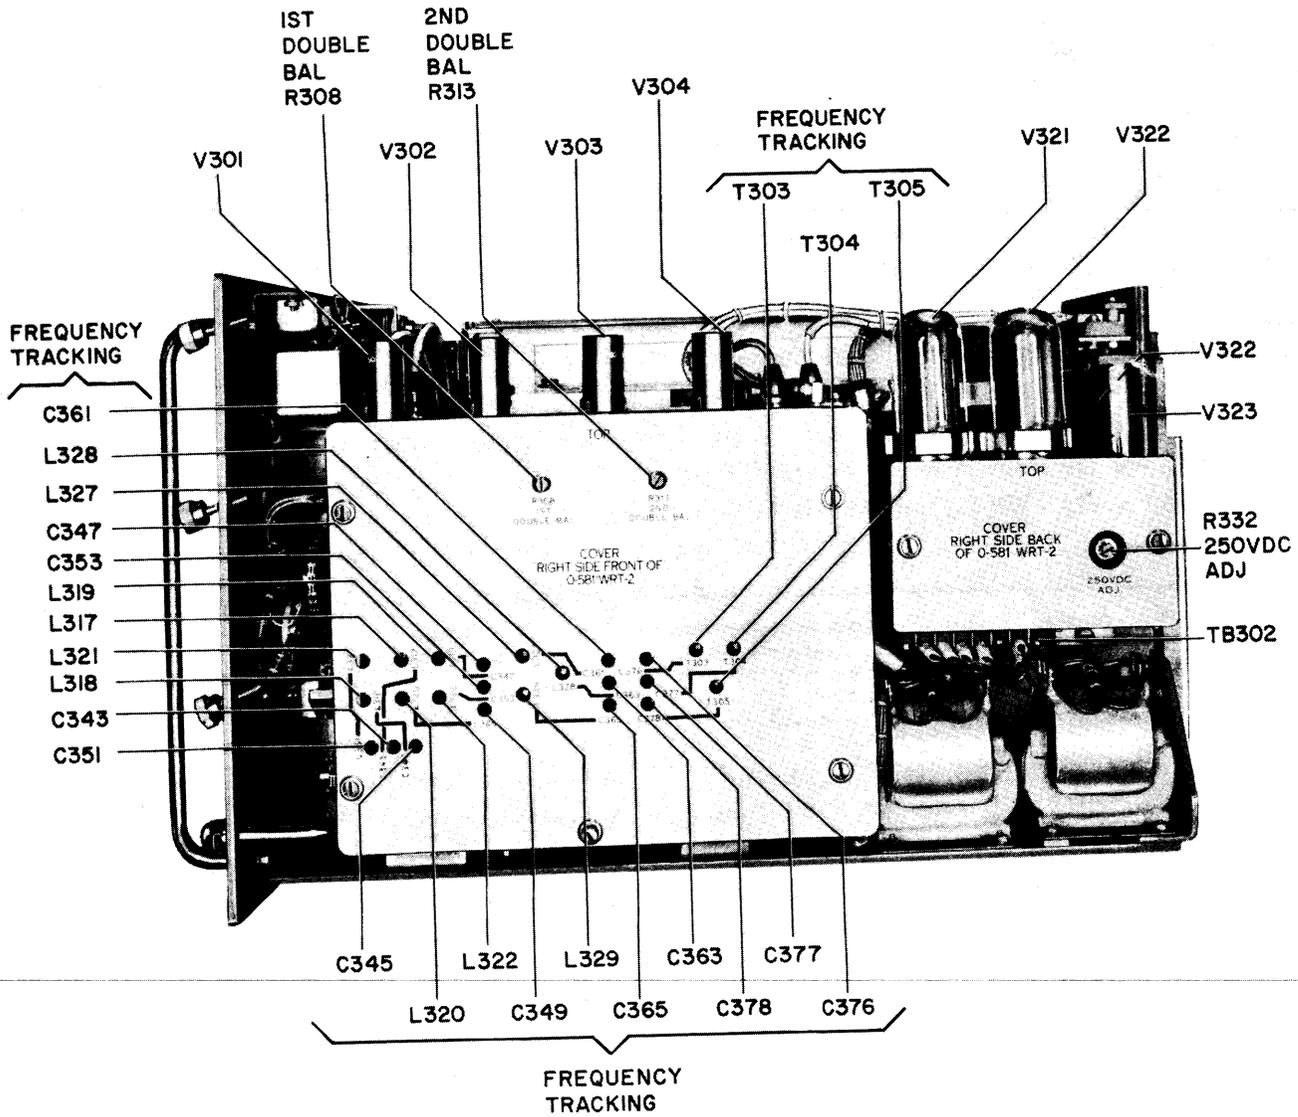

Figure 6-5. Radi Frequency Oscillator O-581/WRT-2 Right Side View, Electrical Adjustments
(a) The electrical adjustments on the frequency doubler circuits consist of tracking the master oscillator amplifier and frequency multipliers with the master oscillator, and balancing the outputs of first and second doubler V303 and V304. When making the tracking alignment of the frequency doubler circuits refer to figure 6-5 in order to locate each adjustment and proceed in the following manner:
Step 6. Refer to figure 6-5 and adjust coil L317 for a maximum indication on Multimeter AN/USM-34 Series (or equivalent).
Step 7. Set FREQUENCY (D) control to the high end of the band (2.0 mc for band one). Leave TUNING (A) and (B) controls set at 00.01.
Step 8. Refer to figure 6-5 and adjust capacitor C343 for maximum indication on the multimeter.
Step 10. Reset FREQUENCY (D) control to the middle of the band (2.25 mc for band one). Set TUNING (A) and (B) controls to 50.01.
Step 12. Repeat steps six through 11 for bands two through six adjusting the coils and capacitors listed in the following table. Refer to Section 3 of this technical manual and position TUNING (A) and (B) controls to obtain the proper frequency.
Step 13. Set RANGE (C) and FREQUENCY (D) controls for 9.5 mc. In all the following steps, set TUNING (A) and (B) controls at 00.00.
Step 14. Refer to figure 6-5 and adjust coil L327 for a maximum indication on the multimeter.
Step 15. Set FREQUENCY (D) control to 12.0 mc. Note that this setting is the high end of band seven.
Step 16. Refer to figure 6-5 and adjust capacitor C361 for a maximum indication on the multimeter.
Step 19. Adjust RANGE (C) and FREQUENCY (D) controls to obtain a 10.5 indication on the frequency indicator dial located on the front panel of Radio Frequency Oscillator O-581/WRT-2.
Step 20. Set TUNING (A) and (B) controls, on the front panel of Electrical Frequency Control C-2764/WRT-2, to 00.01 kc. If necessary, readjust FREQUENCY (D) control slightly so that the system locks on.
Step 21. Refer to figure 6-5 and adjust 1ST DOUBLE BAL potentiometer R308 for a maximum reading on Multimeter AN/USM-34 Series (or equivalent).
Step 22. Adjust FREQUENCY (D) control to 22.0 mc and then readjust it slightly until the system locks on.
(5) 2.0-MC MODULATOR.
Step 4. Unlock 250 VDC ADJ potentiometer R332 (see figure 6-5) and adjust it until a voltmeter reading of +250-volts d-c is obtained. Lock the potentiometer.